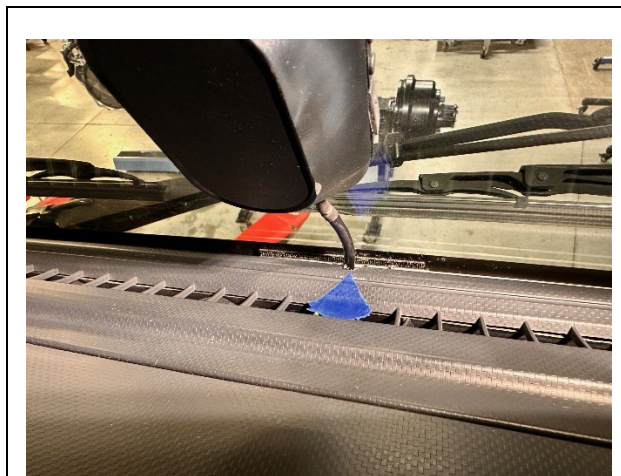

Figure 49
49. Using one (1) inch of masking tape, mark the location near the center of the instrument panel where the Mobileye camera cable goes under the instrument panel. (See Figure 49.)